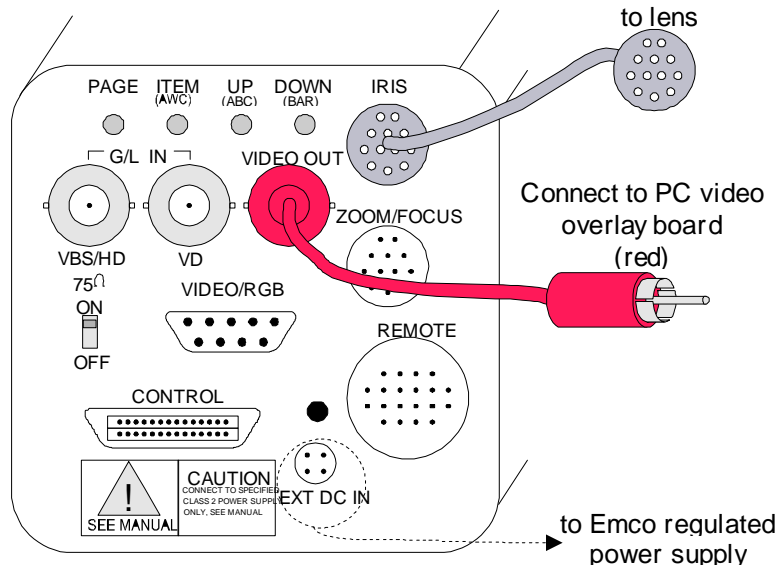

Figure 10
19. Attach the BNC end of the RCA to BNC patch cord to the VIDEO OUT jack of the video camera, (see **Figure 10** [red]).
32. Attach the power cord to the video camera (see **Figure 10**).